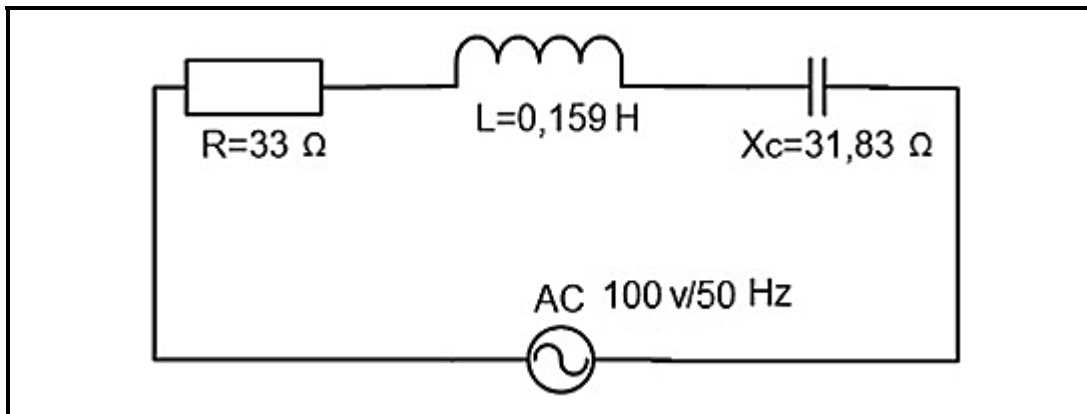

FIGURE 5.4
- 5.4 Refer to the circuit diagram in FIGURE 5.4 and answer the questions that follow.